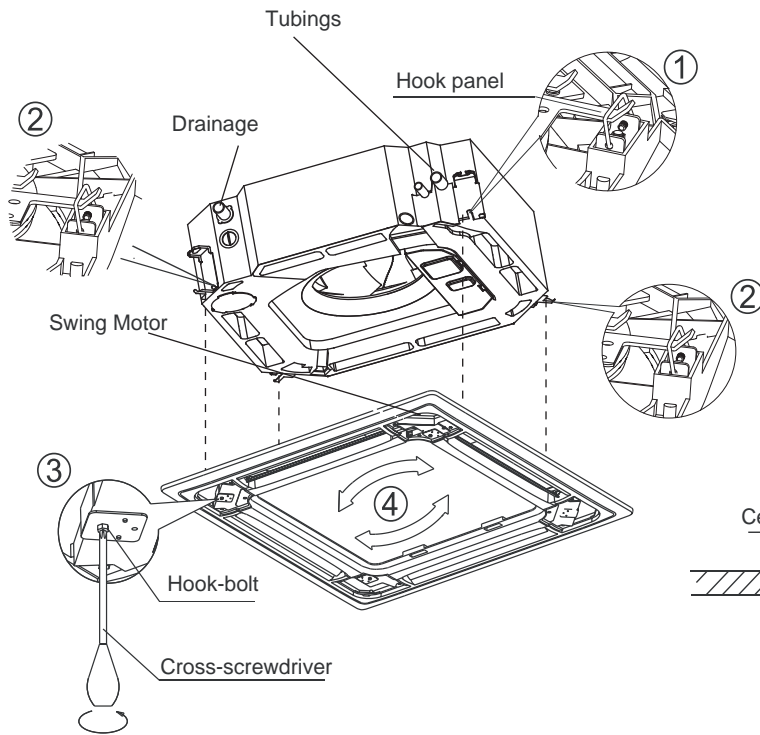

Fig.24
1. Align the swing motor on the panel to the tubing joints of the body properly. (Fig.24)